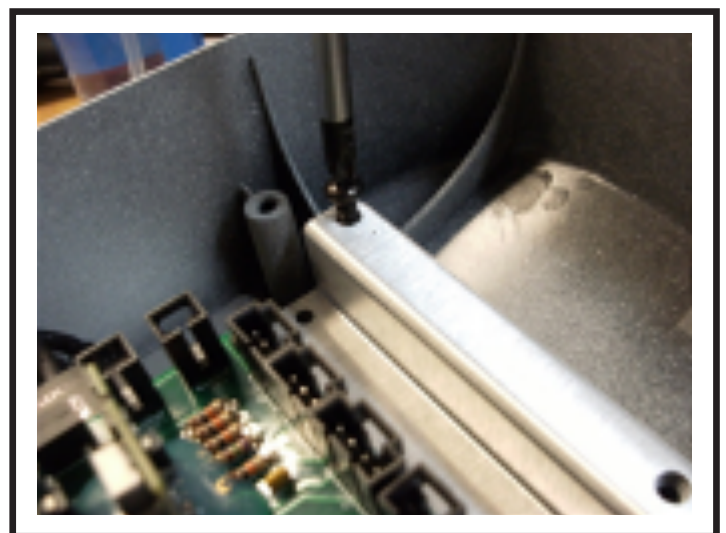

Figure 26
3. Using #2 Phillips Screwdriver, remove 4 screws securing the touchscreen assembly (Figure 26).